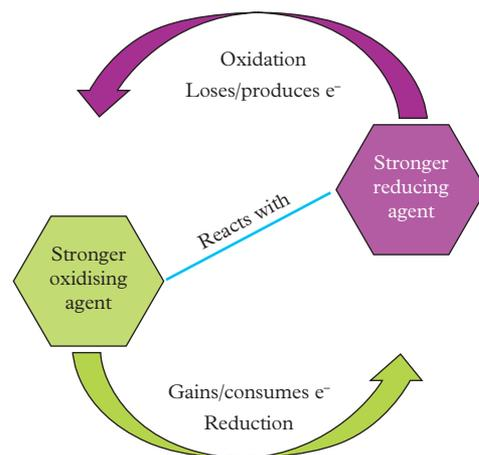

FIGURE 2 The 'Z' configuration is used to determine the non-spontaneous electrolysis reaction that can occur.
We can use the **OX Z RED** method, which uses a diagram shaped as the letter 'Z' (Figure 2).
- 3 The strongest oxidising agent will react with the strongest reducing agent when sufficient electrical energy is applied. This is summarised in the 'Z' configuration of Figure 2.